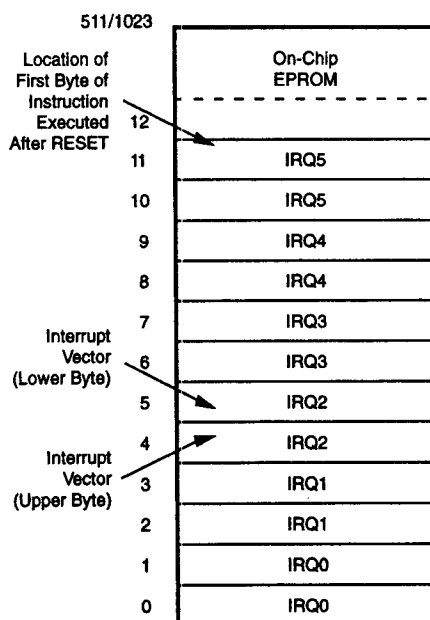

Figure 6. Program Memory Map
**Program Memory.** Z86E03/E06 can address up to 512/1K bytes of internal program memory (Figure 6). The first 12 bytes of program memory are reserved for the interrupt vectors. These locations contain six 16-bit vectors that correspond to the six available interrupts. Byte 13 to byte 511/1023 consists of on-chip, user program mask ROM.